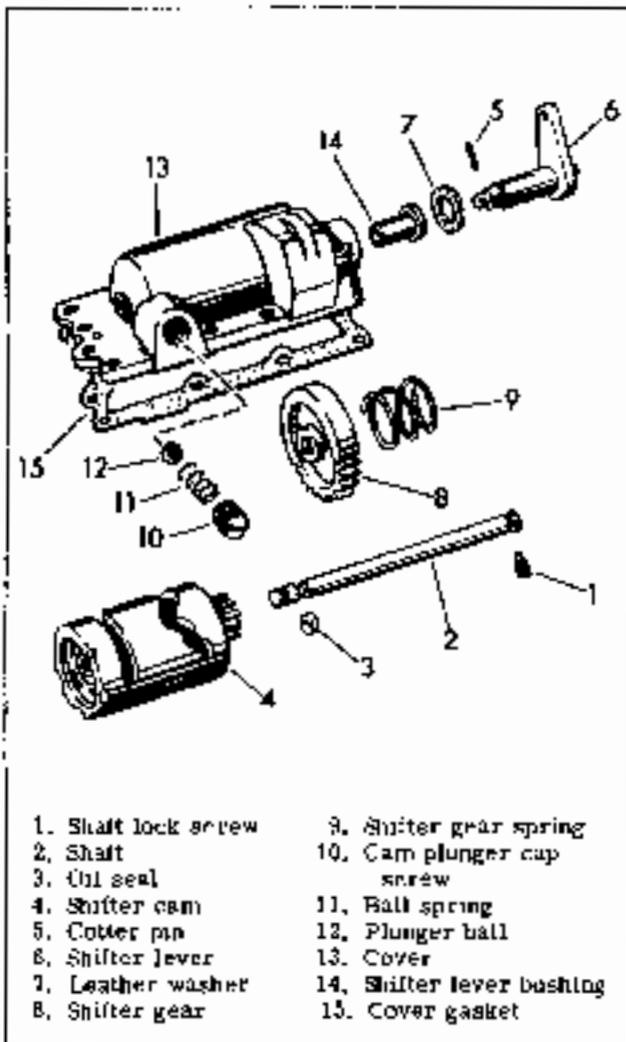

Figure 4-11. Hand Shifter Cover - Exploded View
Disassemble shifter cover parts 1 through 12 as described in "Disassembling Shifter Cover (Foot Shift)," see Figure 4-11. Time shifter notches as illustrated in Figure 4-13. Loosen screw (13, Figure 4-11) and rotate adapter plate (16) until timing notch (Figure 4-13) in adapter plate, located at bottom of shifter gear hole, lines up with notch between two shifter gear teeth. Make alignment exact, then tighten adapter plate bracket screw to lock in position. This adjustment can be made with shifter in any gear (not neutral).
DISASSEMBLING SHIFTER COVER (HAND SHIFT) (Figure 4-11)
CLEANING, INSPECTION AND REPAIR (Figure 4-11)